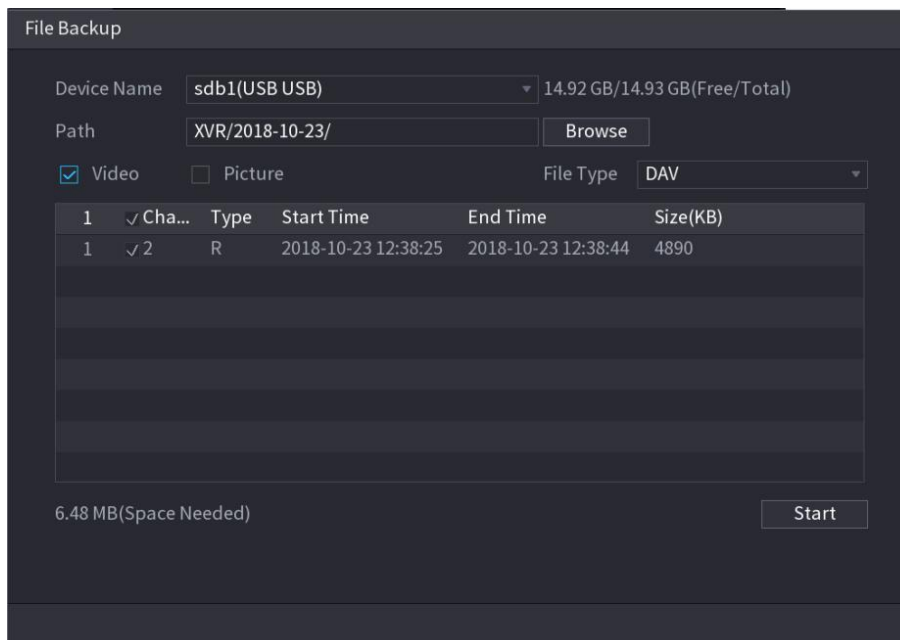

Figure 5-187
- To back up the recorded files to the external storage device, select files, click **Backup**, select the save path and file type, and then click **Start**. See Figure 5-187.